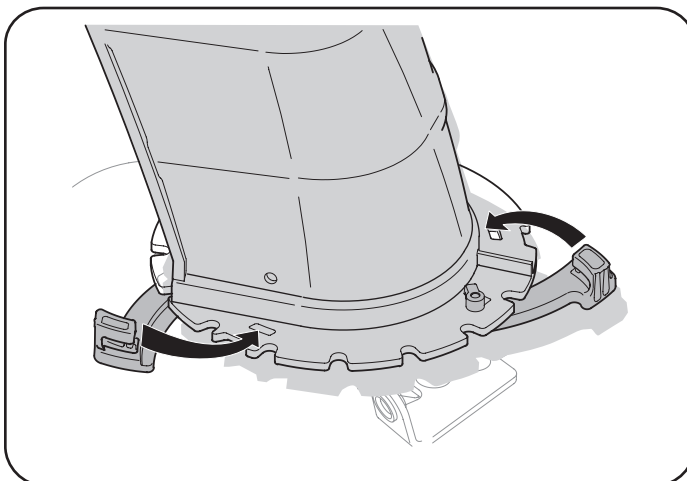

Figure 10
2. Close flange keepers to secure chute assembly to chute base. Flange keepers will click into place when properly secure. See "Figure 10"10.